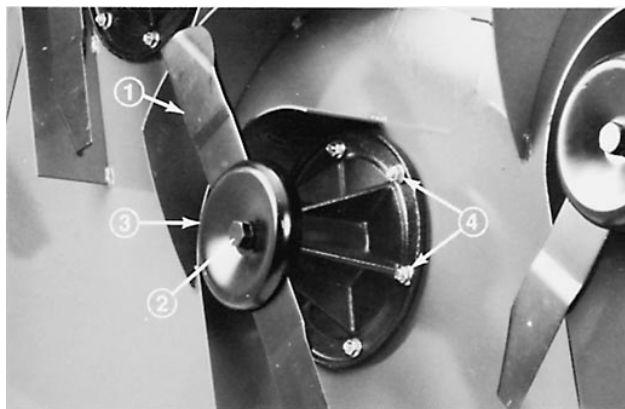

Figure 59
2. Using a rag or thickly padded glove, grasp end of blade. Remove blade bolt, lockwasher, anti-scalp cup and blade from spindle assembly (Fig. 59).